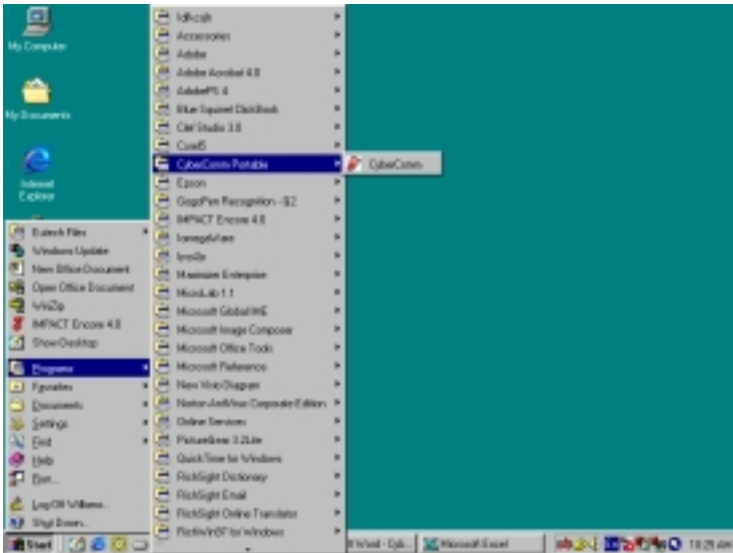

Figure 47: Run the CyberComm Software program
2. Switch on the CyberScan CON 200 meter and run the CyberComm DAS software as indicated in Figures 47 and 48.